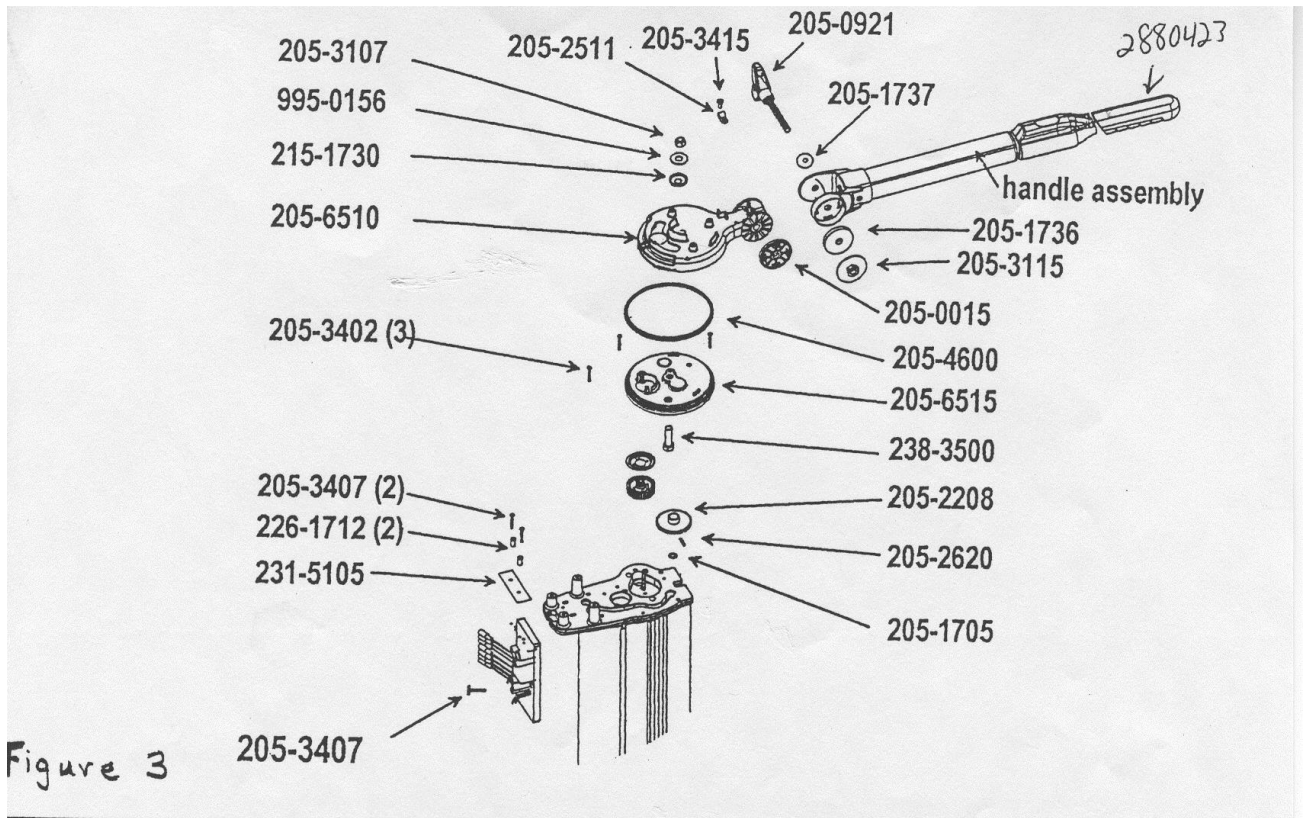

Figure 3
- Step 3.** Disconnect the coil cord wires from the main control board. Using a 9/16" socket or box end wrench, unscrew the top lock nut (p/n 2053107). Remove the flat and cup washers. Lift off the gear housing upper cap (p/n 2056510) and gear housing ring. Unscrew the three screws (p/n 2053402) and remove the lower gear housing cap (p/n 2056515) along with the gear housing o-ring (p/n 2054600). (See **figure 3, page 8.**) Removing the gear housing cap exposes the steering gear and the lift belt/flange pulley/lift gear assembly of the Vantage motor lift system.
- g. Disconnect the motor leads and lift motor wires from the control board. Remove the 2 control board mounting screws and insulating washers (p/n 2053407 and 2261712). (See figure 3, page 8.)